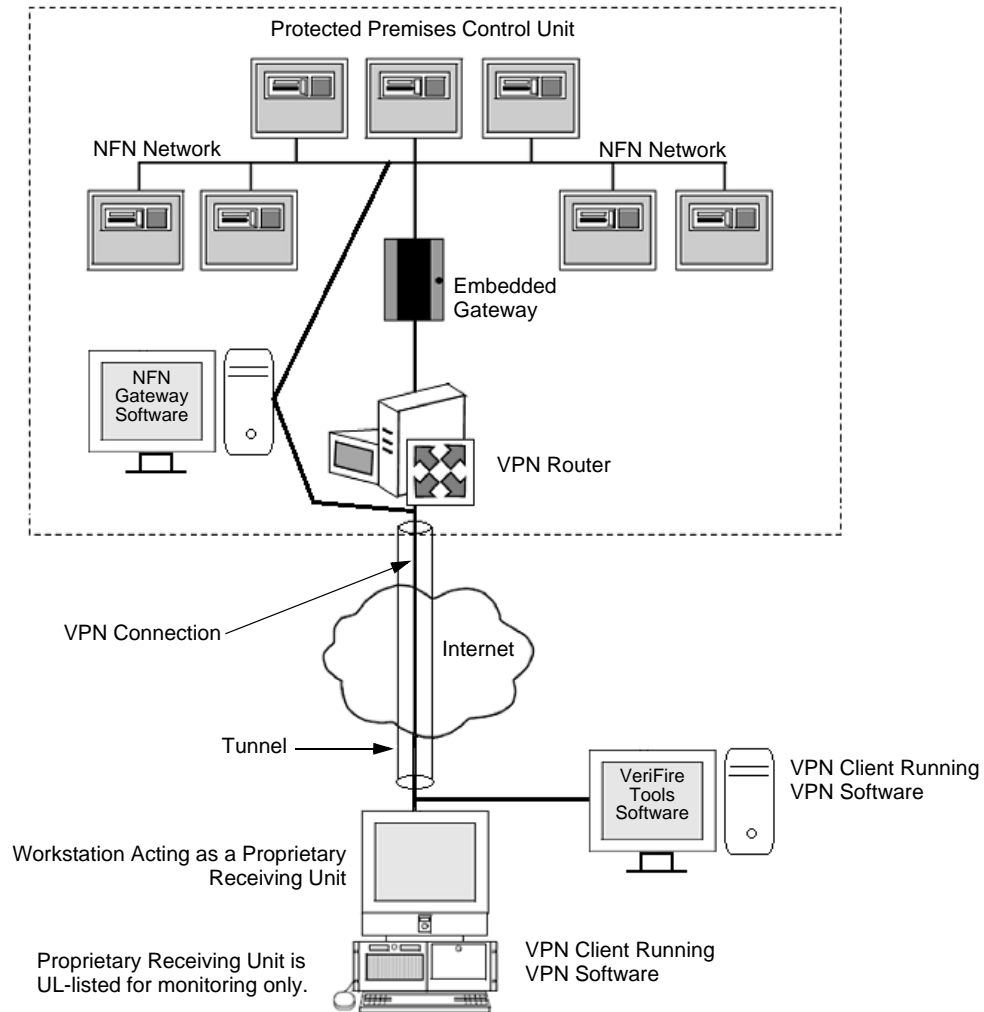

Figure 2.1 VPN Type 1
- The IT infrastructure utilized for life safety communication should be physically or logically isolated from non-life safety infrastructure. Examples of such isolation could include a VLAN, VPN, or dedicated network. Refer to Figure 2.1, “VPN Type 1” on page 9 and Figure 2.2, “VPN Type 3” on page 10.
- The IT infrastructure utilized for life safety communication should be physically or logically isolated from non-life safety infrastructure. Examples of such isolation could include a VLAN, VPN, or dedicated network. See Figure 2.1, “VPN Type 1” on page 9 and Figure 2.2, “VPN Type 3” on page 10.
- The IT infrastructure utilized for life safety communication should be physically or logically isolated from non-life safety infrastructure. Examples of such isolation could include a VLAN, VPN, or dedicated network. See Figure 2.1, “VPN Type 1” on page 9, Figure 2.2, “VPN Type 3” on page 10, and Figure 2.3, “Embedded Gateway VPN Setup” on page 11.
- The IT infrastructure utilized for life safety communication should be physically or logically isolated from non-life safety infrastructure. Examples of such isolation could include a VLAN, VPN, or dedicated network. See Figure 2.1 on page 9 and Figure 2.2 on page 10.